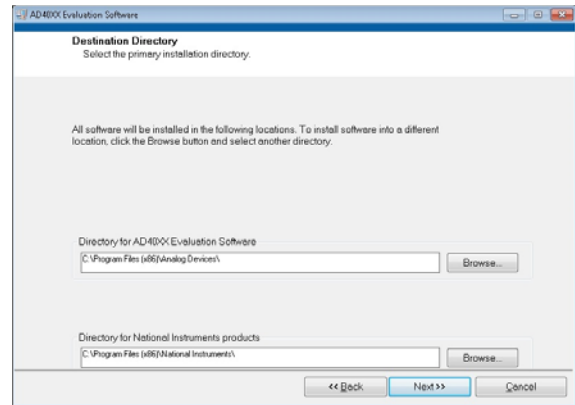

Figure 4. Destination Directory
2. Choose the folder location for installation and click **Next**. The default folder is shown in Figure 4.